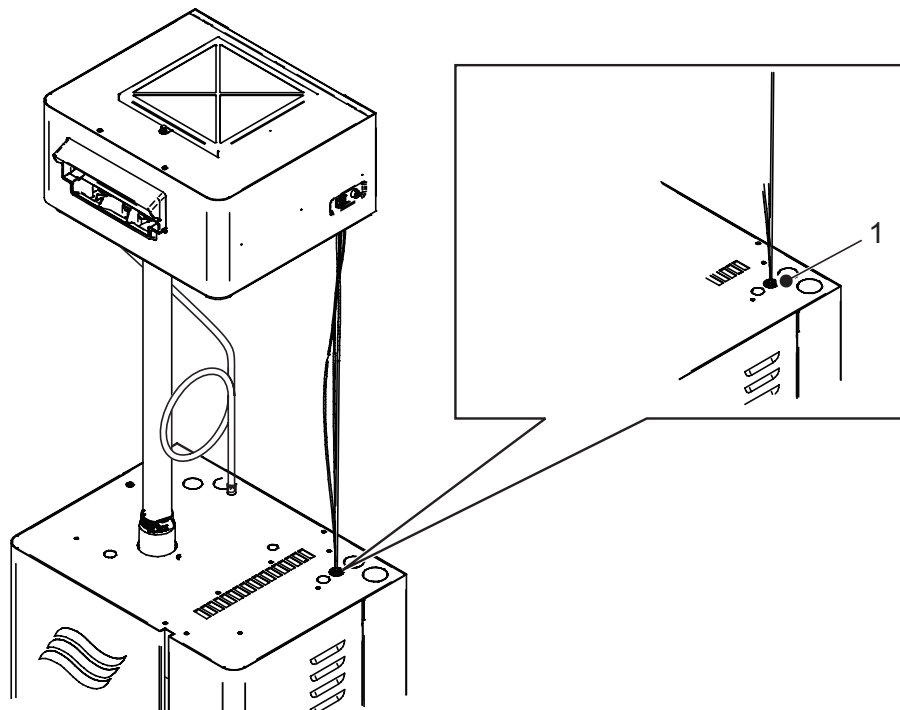

Figure 15: Cable Routing
- b. Install the grommet (supplied) in the knockout hole that is located directly below the blower pack power connector, and route the cables through the grommet, as shown in Figure 15.